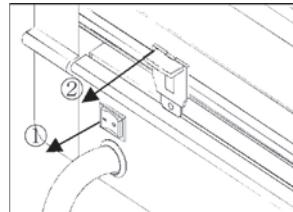

Figure 2
Located on the rear of the machine. "I" (on) "0" (off). (Fig. 2)
Used to cut off the laminated web. (Fig. 2)
1. Turn the laminator ON (I) located on the rear of the machine. (Fig. 2)